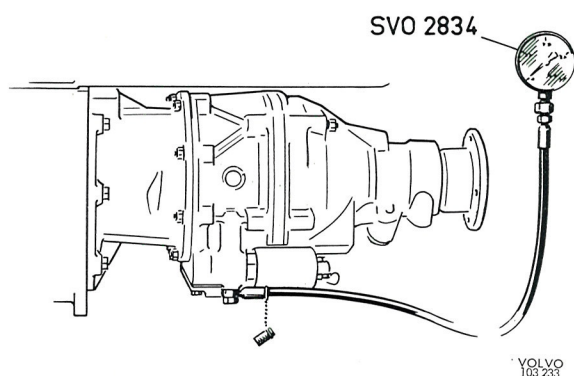

Fig. 4-53. Checking the oil pressure
1. Remove the plug under the operating valve and connect the pressure gauge SVO 2834, see Fig. 4-53.